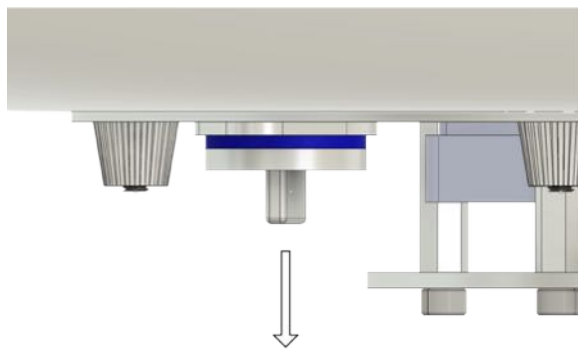

Abb. 3
3. To allow the air to escape more quickly, open the twist lock on the base plate (Fig. 3)